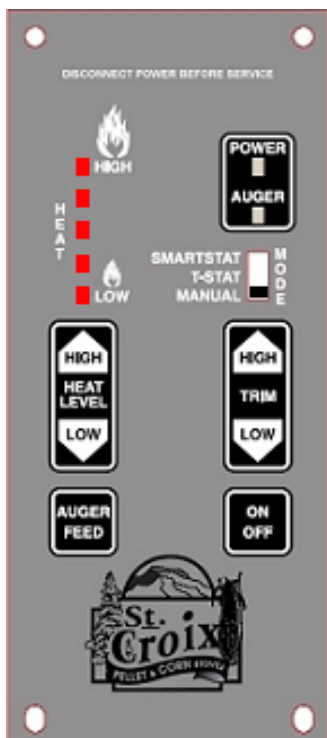

Figure 20
- 1 - **Program 1.** The Cycle Time is 8.5 seconds. This program will be the default program when the furnace is first plugged in. **This program is for use with Pellets, Corn, Wheat, Rye, Cherry Pits & Distillers Grain Pellets.** (See figure 20 on page 32)
- 2 - **Program 2.** The Cycle Time is 7.5 seconds. **This program is for use with Pellets, Corn, Cherry Pits & Distillers Grain Pellets only.** (See figure 20 on page 32)
- 3 - **Program 3.** The Cycle Time is 6.5 seconds. **This program is for use with Pellets & Cherry Pits.** (See figure 20 on page 32)
- 4 - **Program 4.** The Cycle Time is 5.5 seconds. **This program is for use with Pellets & Cherry Pits.** (See figure 20 on page 32)
To change the program the furnace must be in the OFF position, the furnace must be cooled down so the Proof of Fire disc is open and the Thermostat slide switch must be in the Manual mode. (See figure 20)